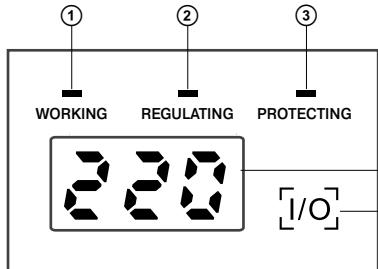

Fig. 1. Control panel
4. DESCRIPTION (SEE. FIG. 1, 2 AND 3)